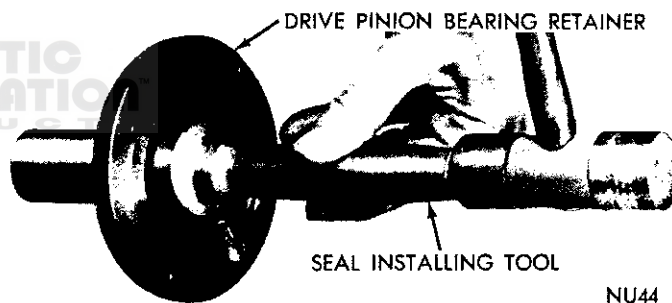

Fig. 37—Installing Seal in Drive Pinion Bearing Retainer
(31) Install the outer snap ring on the drive pinion bearing and tap the assembly back until the snap ring contacts case.
(32) Using Tool C-3789 (Fig. 37), install a new oil seal in retainer bore. Position main drive pinion bearing retainer and gasket on front of case. Coat threads with sealing compound, then install attaching bolts